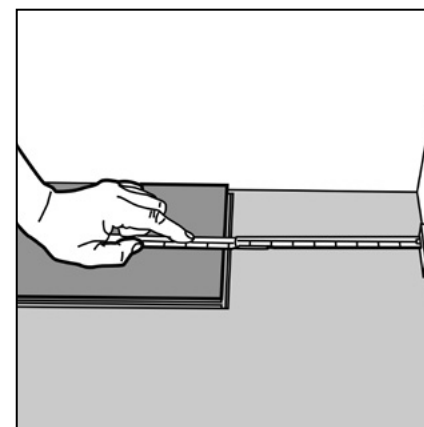
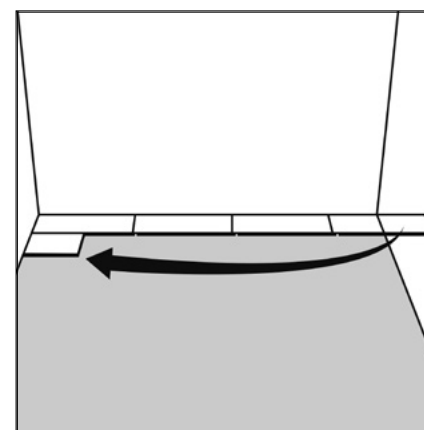
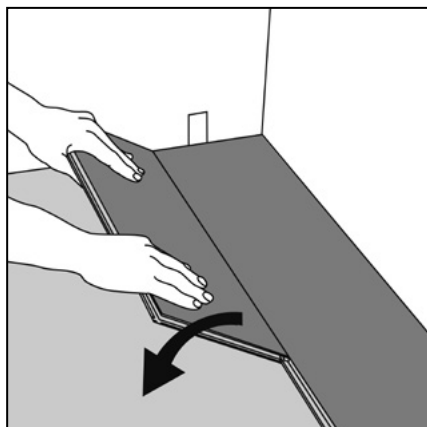

Figure 12 Last plank, first row
Figure 13 First Plank second row
Figure 14 First Plank, second row
- > Measure the length of this plank/tile to fit (fig. 12), cut to correct length and turn back so the overhanging male profile on the short edge is now facing the previous plank/tile. Install as before. The minimum length of this plank/tile should be 350mm. Note - The remaining part of this plank/tile will start the next row (fig. 13).
- > Start this new row with the leftover piece from the last row (min length 350mm – fig. 13). Insert the plank/tile at an angle against the plank/tile in the previous row (fig. 14). Press forward and fold down at the same time.